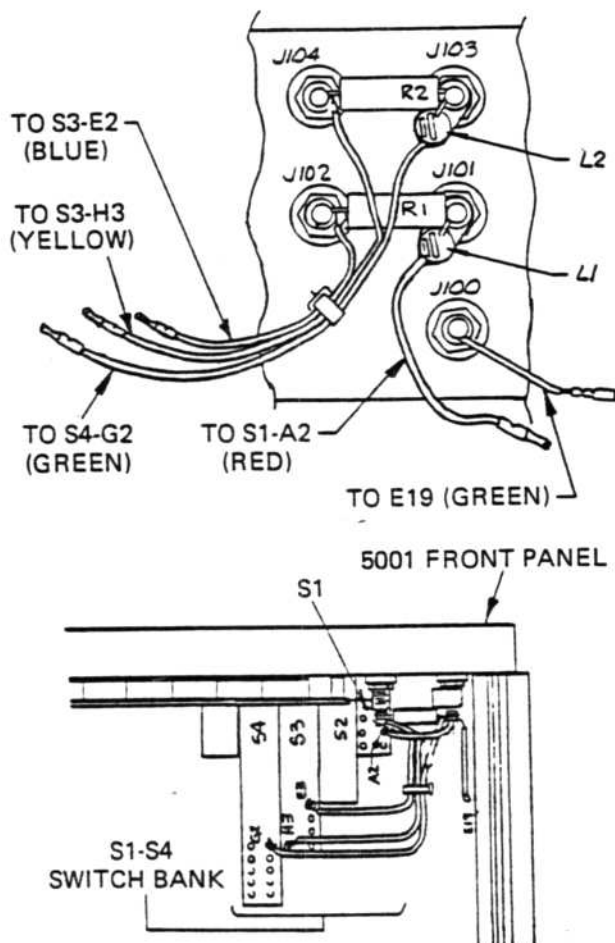

Figure 5.9 - Front Panel Input Terminal Disconnection with Detailed Top View
5.4.3.4 Main PCB Assembly - refer to Figures 5.9 and 5.10 and use the following procedure to remove the main PCB assembly.
- b) If not already completed (see Subsection 5.4.3.4-a and Figures 5.9 and 5.10), disconnect the five connections for the front panel input terminals from the main PCB assembly; then loosen and remove the four front panel retaining screws.